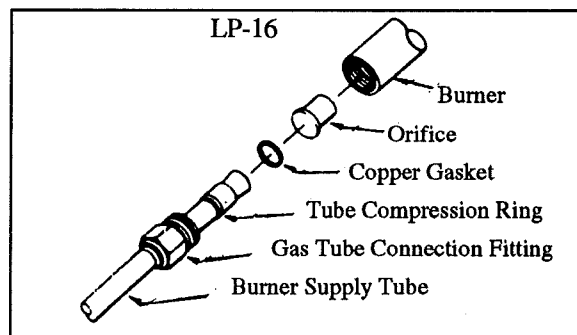
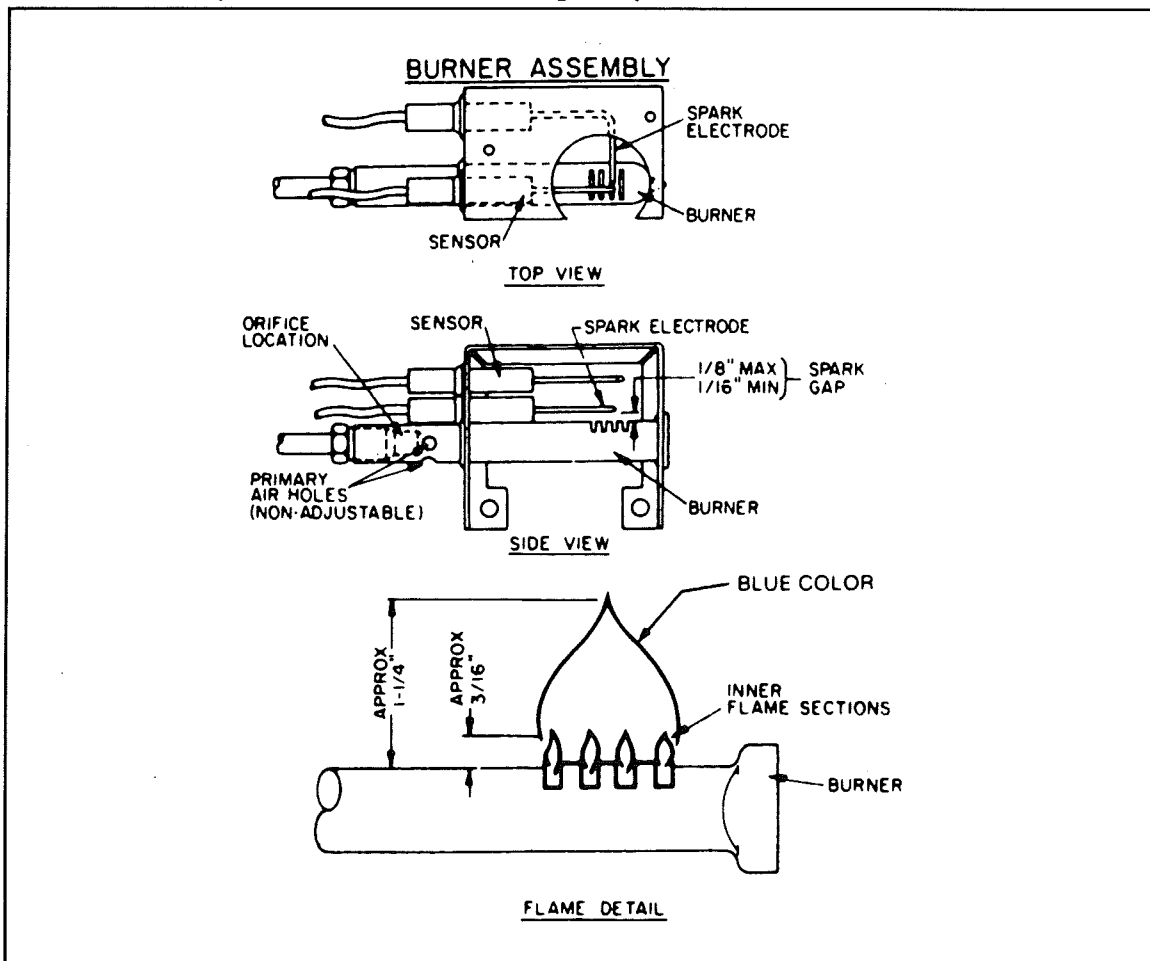

Figure 21
Figure 22
2. Study the exploded view of the burner orifice assembly. (See Figure 21.)
6. When it has been determined that the orifice is clean, reinstall it along with the burner gas supply tube, making sure that all parts are reassembled as shown in Figure 21. The fitting should be turned by hand several times to insure against cross threading. Before replacing the cover on burner box, check the electrode positions as shown in Figure 22. Adjust spark gap if necessary. After re-igniting the burner, check for leaks by applying a soap solution to the tube fitting. If no leaks are present, replace the burner cover.
After refrigerator is re-started and run for a period of time, check the gas flame. The flame should be a sharp blue with no yellow color (See Figure 22.)